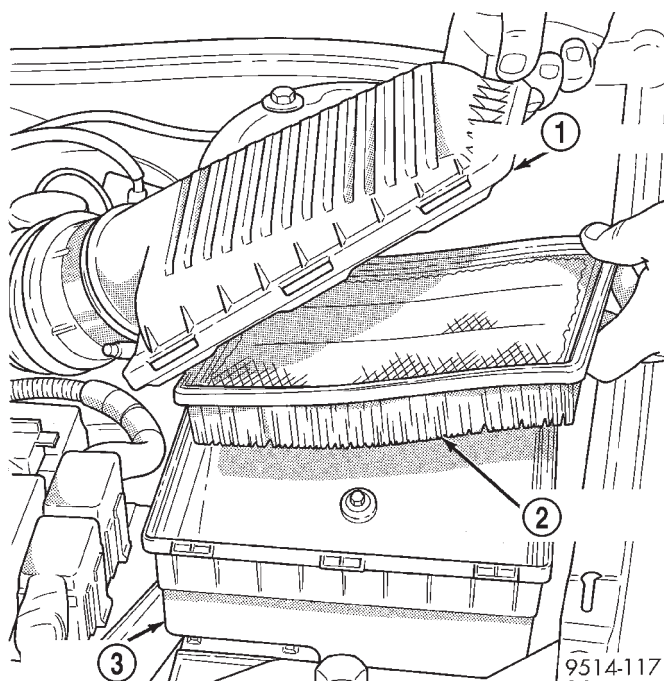

Fig. 28 Air Cleaner Housing and Element
- (2) Remove filter element (Fig. 28).
- (3) If necessary, clean the inside of the air cleaner housing.